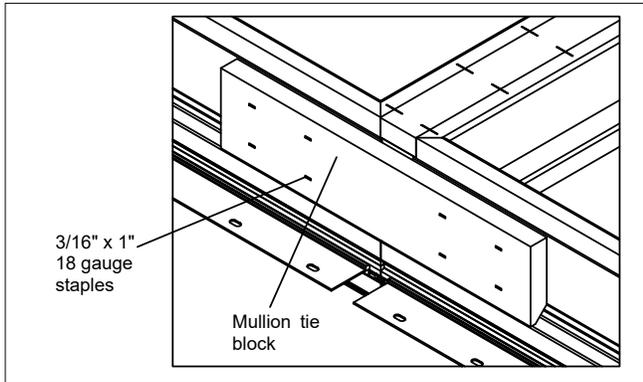

Figure 12
- Attach mullion tie block at sill with at least four 3/16" x 1" 18 gauge staples on each side as shown in figure 12.